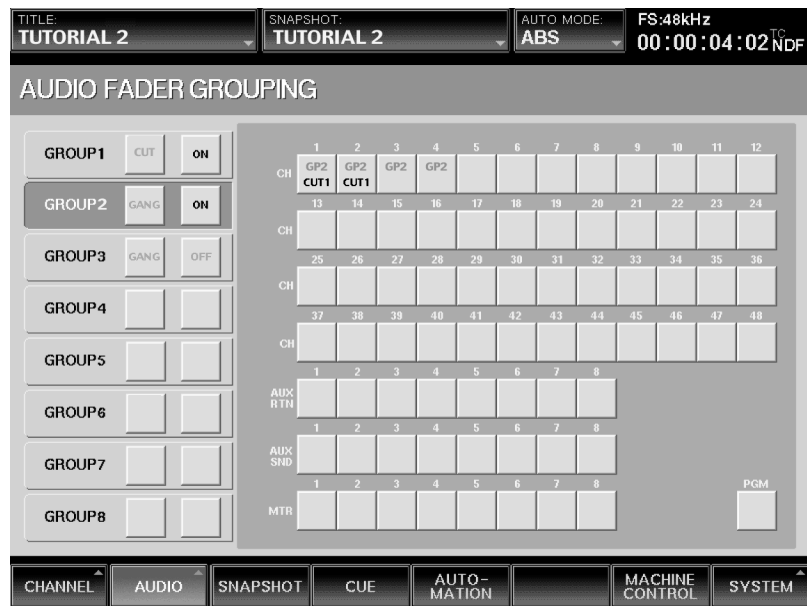

Figure 9
- 6 Next, we'll place channels 1, 2, 3, and 4 into a gang fader control group. Press the Mode button for GROUP2 repeatedly until it reads GANG. Then press the ON/OFF button for GROUP2 so that it reads ON. Touch the buttons for Channels 1, 2, 3 and 4: the words "GANG2" appear in each, indicating that each of these channels have now been placed in Group 2, which has been designated as a gang fader control group. (See Figure 9)